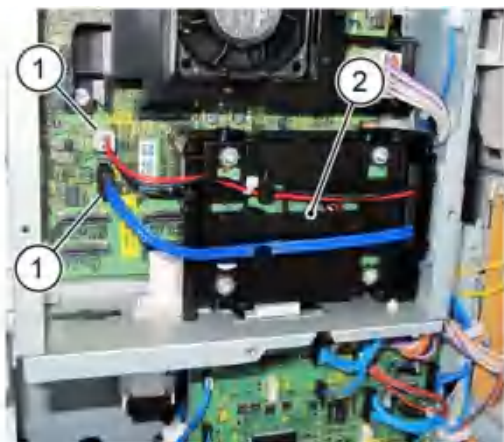

Figure 2 HDD removal
5. If an HDD assembly installed, remove the HDD assembly, Figure 2:
- a. Disconnect the connectors (1).
- b. Remove the HDD assembly (2).